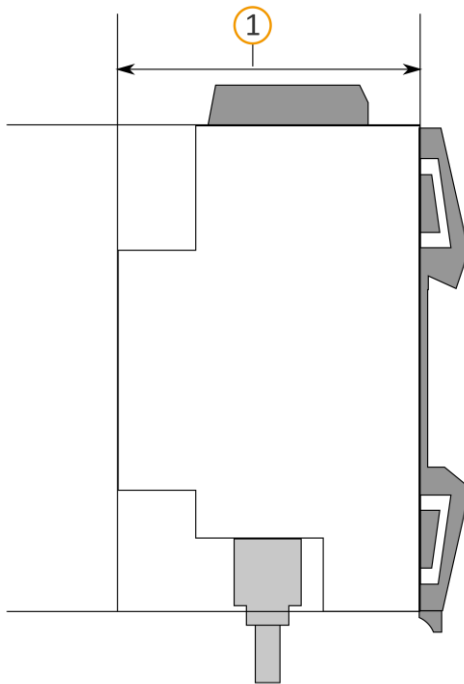

Figure 4: Side of device
- Pay attention to the device depth: REG-Plus. Device depth ► see Figure 4 (1)